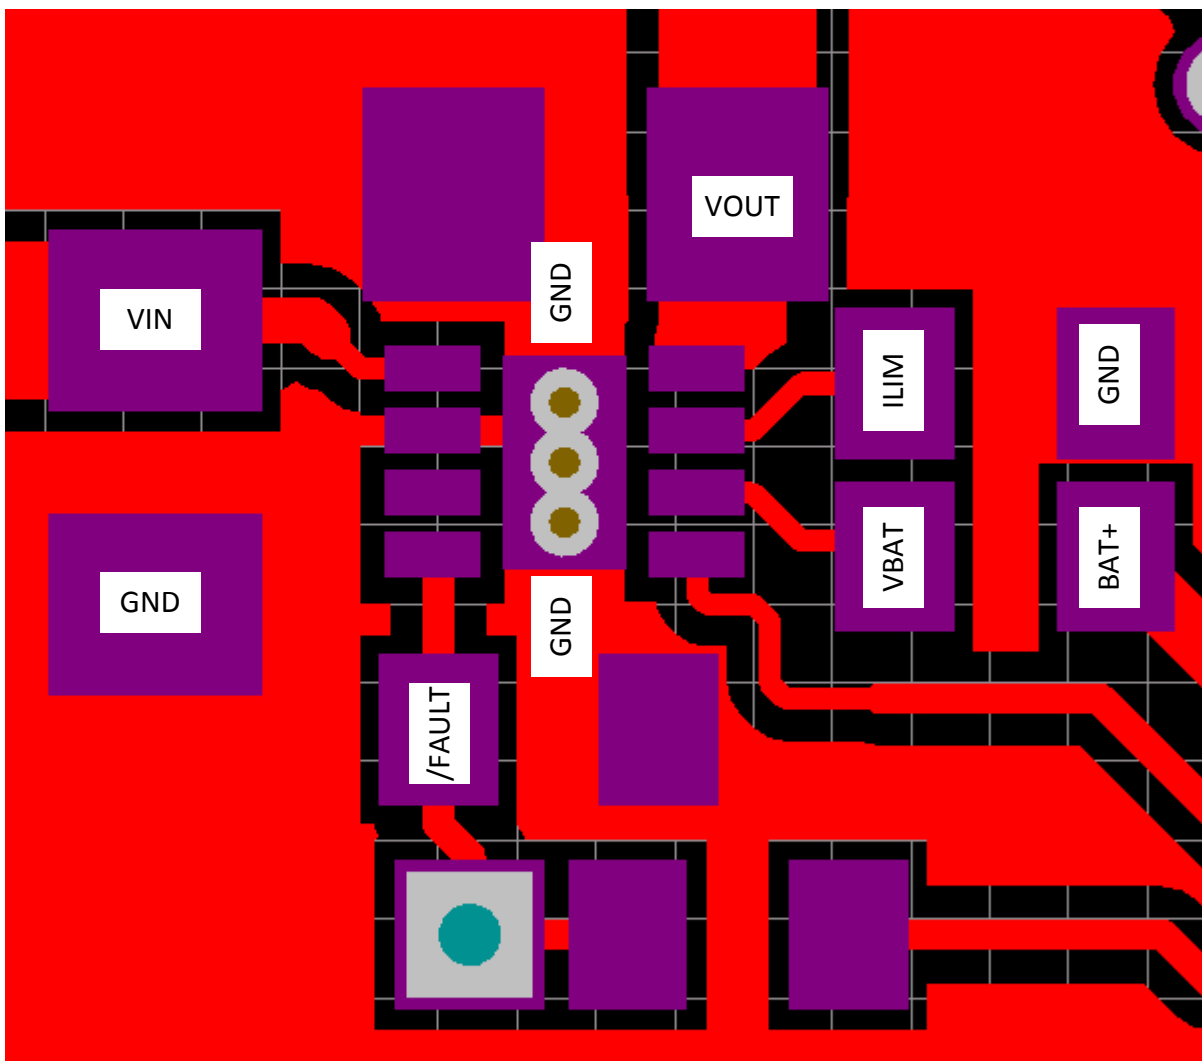

Figure 23. Layout Example Recommendation
- This device is a protection device, and is meant to protect down-stream circuitry from hazardous voltages. Potentially, high voltages may be applied to this IC. It has to be ensured that the edge-to-edge clearances of PCB traces satisfy the design rules for high voltages. See Figure 23.